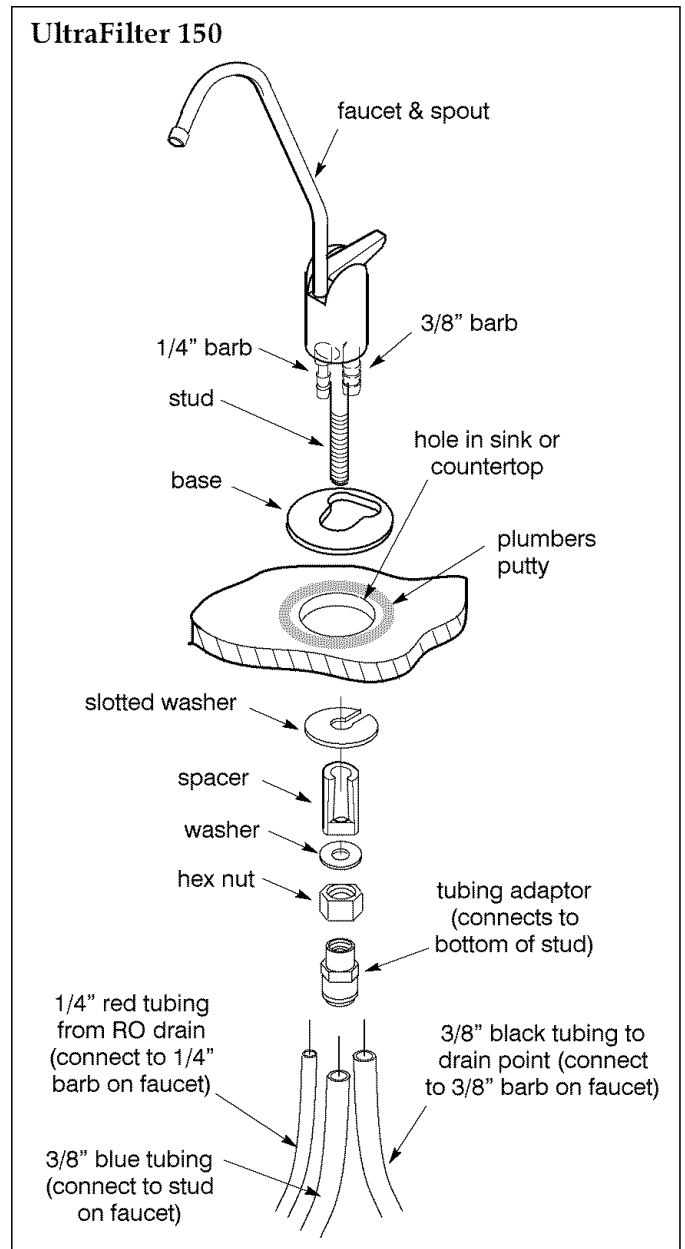
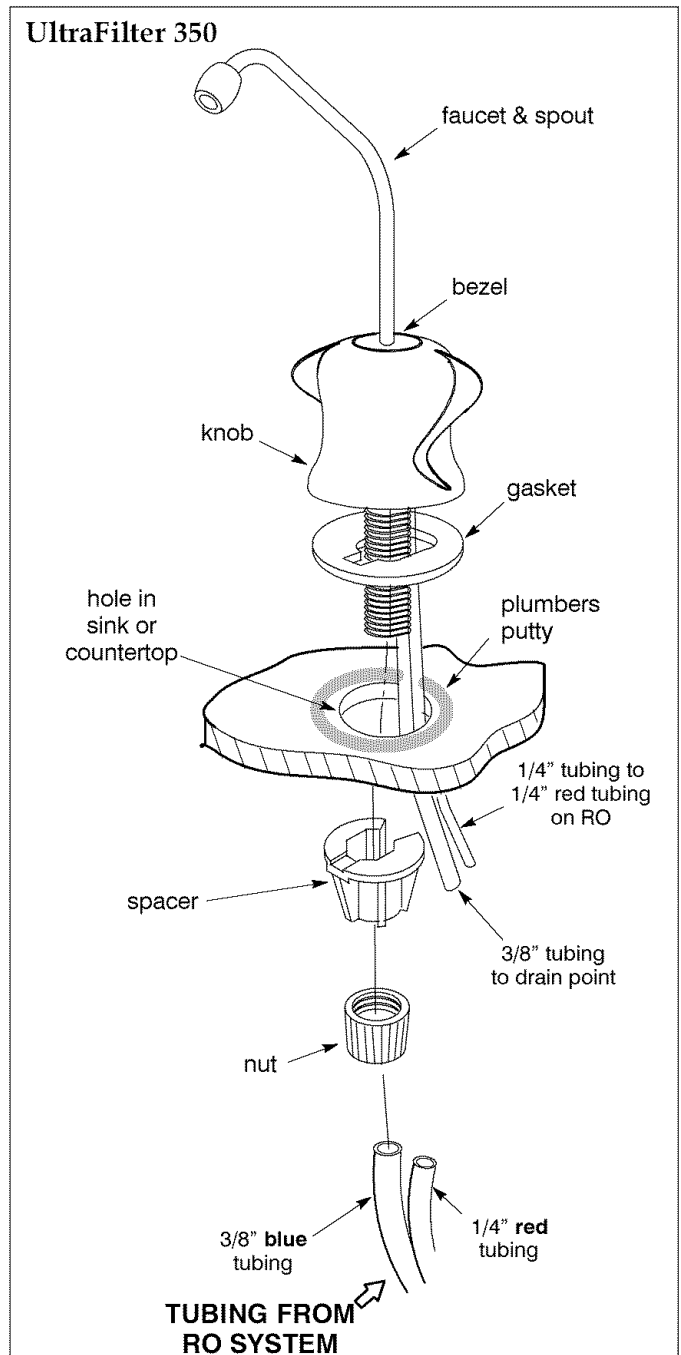

Figure 6
Figure 7
3. Place plumbers putty around the drilled hole (Figure 6 and Figure 7) to prevent water leakage around the base of the faucet.